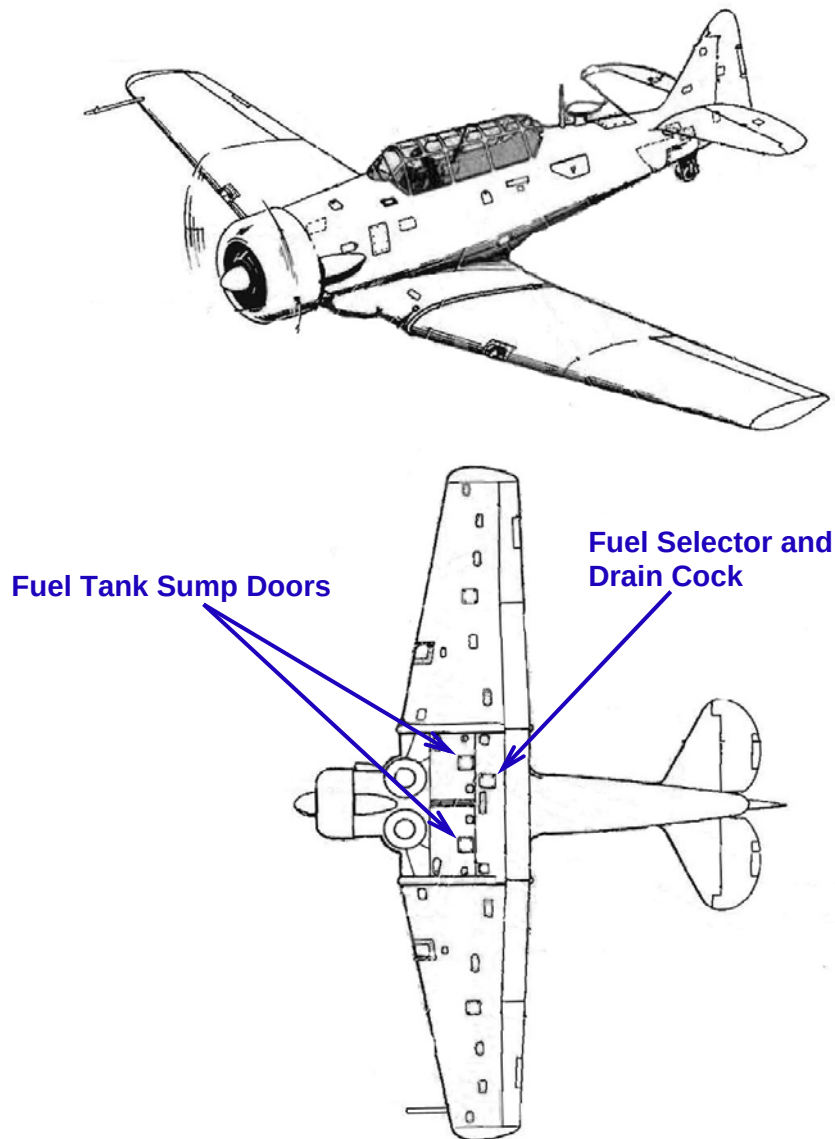

Figure 1 – Valve Access Location
1. Start by removing the cover panel on the aircraft to reveal the current fuel valve. Figure 1, depicts the location on the aircraft where the valve resides. This cover is over the aileron pulleys that direct the cables to the torque tube.